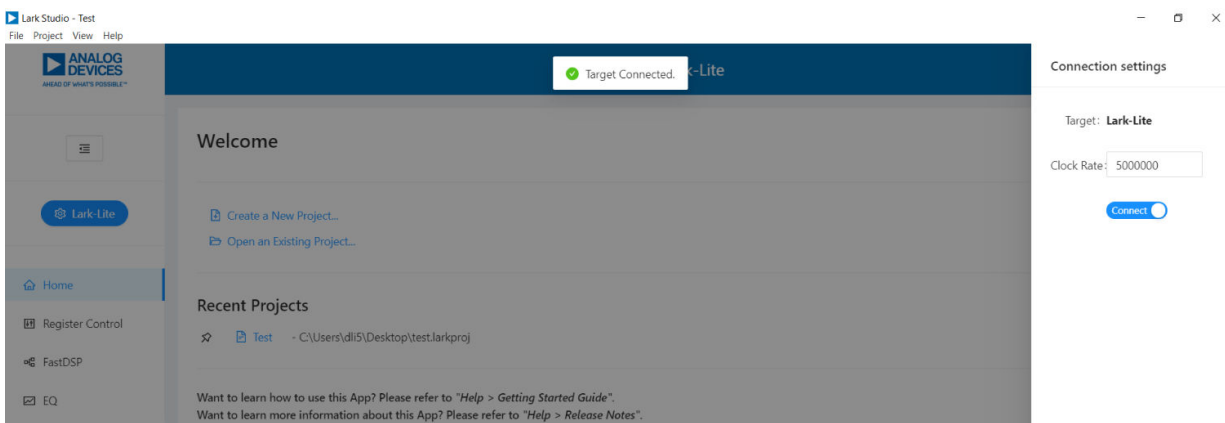

Figure 4. Connect with EVAL-ADAU1850EBZ
6. Click **Target Connection** in the left navigation panel, and configure the **Connection settings** pane that opens on the right to set up the connection. If the USB connects, **Target Connected** displays (see Figure 4).